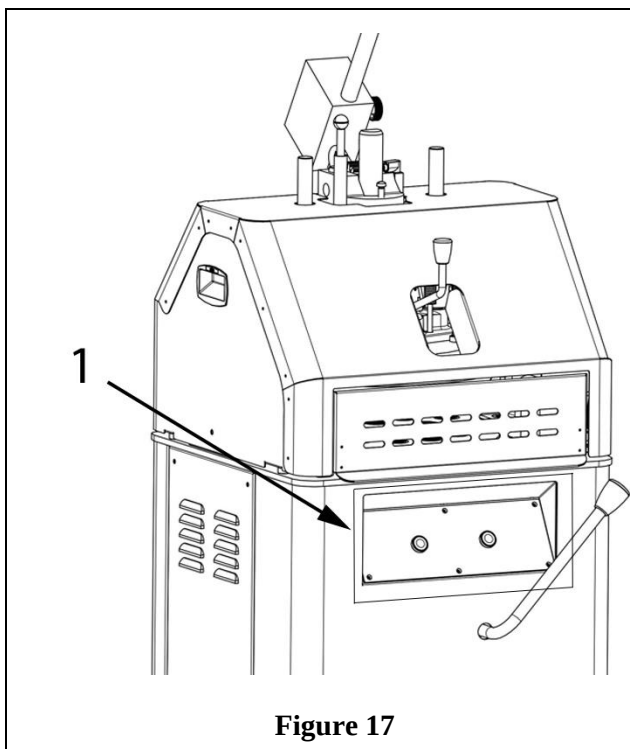
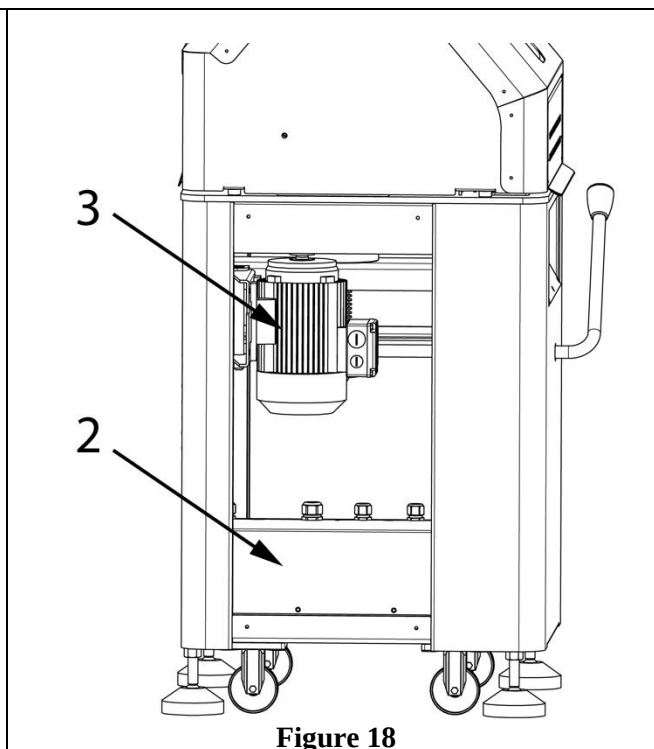

Figure 17
Figure 18
- A control push-button panel (Figure 17, pos.1)
- An electrical system (Figure 18, pos.2) consisting of the control and command devices of the machine, positioned inside it.
Key (Figure 17 and Figure 18)